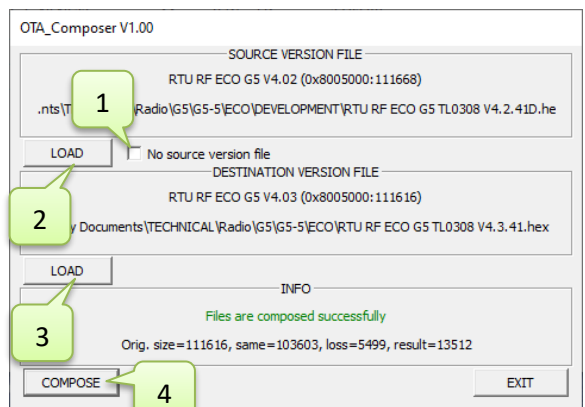

Figure 13 - Composer with source and destination
- b. In the second option when we know for sure the version currently loaded and we know it is the same for all RTUs, we can save plenty of time by loading only the differences between the SOURCE VERSION and the DESTINATION VERSION. In this case we shall uncheck the “NO SOURCE VERSION” (Figure 13 -1) checkbox, load the file containing the SOURCE VERSION (Figure 13 -2) and load the file with the DESTINATION VERSION (Figure 13 -3) and push the COMPOSE (Figure 13 -4) button to prepare the file to be used by the LAUNCHER.